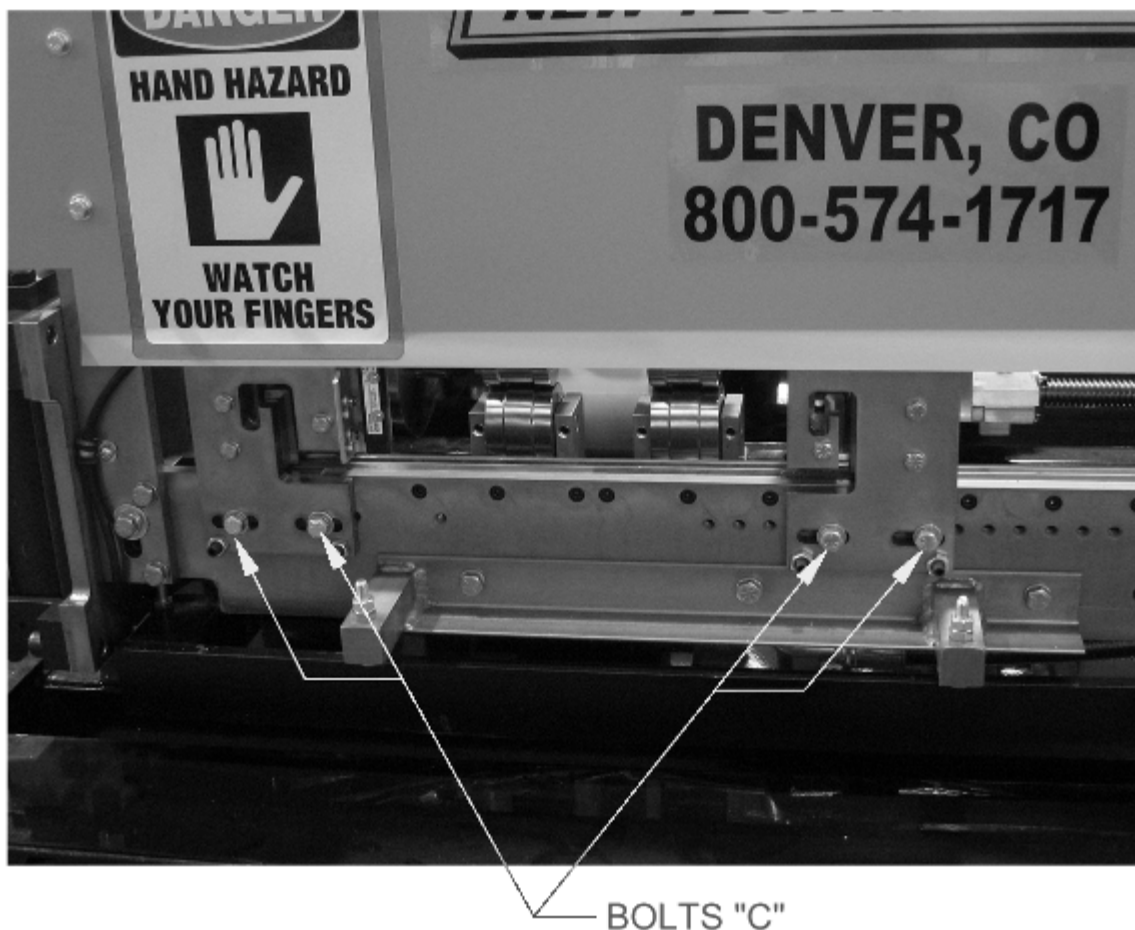

Figure 57: Remove Shear Bolts
22. Remove the two “C” bolts on the exit male and female shear die assemblies located in the slotted holes at the bottom edge of the die holder (Figure 57). Store the shear dies with the profile you just removed, and set the bolts aside for use when installing the new shear dies.